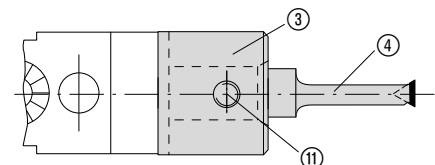

figure 6
Insert tool holder ④ into adaptor ③ and secure using thread pin ⑪. Apply torque of **2,5 Nm** (22.125 in. lbs.) (figure 6).